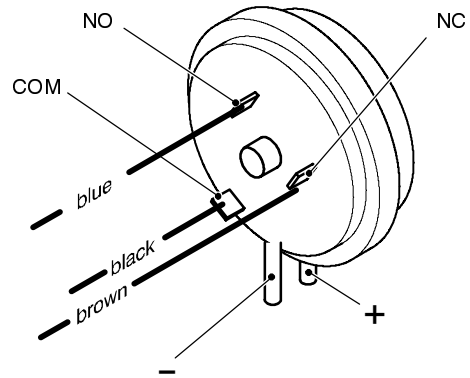
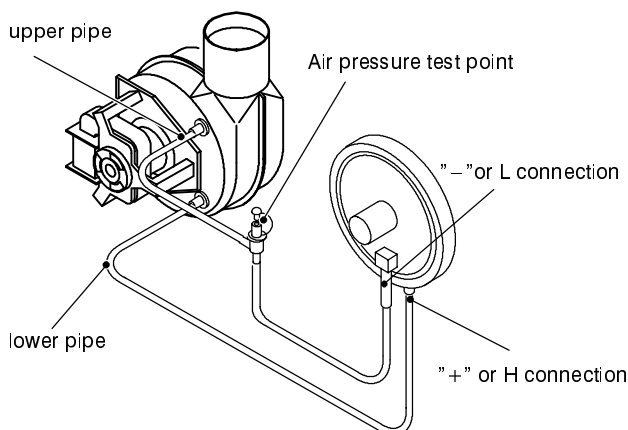

fig. 73a
fig. 74
Refer to the fig. 73a b or c in accordance with the type of air pressure switch used.
**Warning: reassembling the fan, refer to fig. 74 to connect correctly the venturi device to the air pressure switch.**
**Warning: reassembling the air pressure switch, refer to fig. 73a b or c to connect correctly the wirings and to fig. 74 to connect the venturi device to the air pressure switch.**